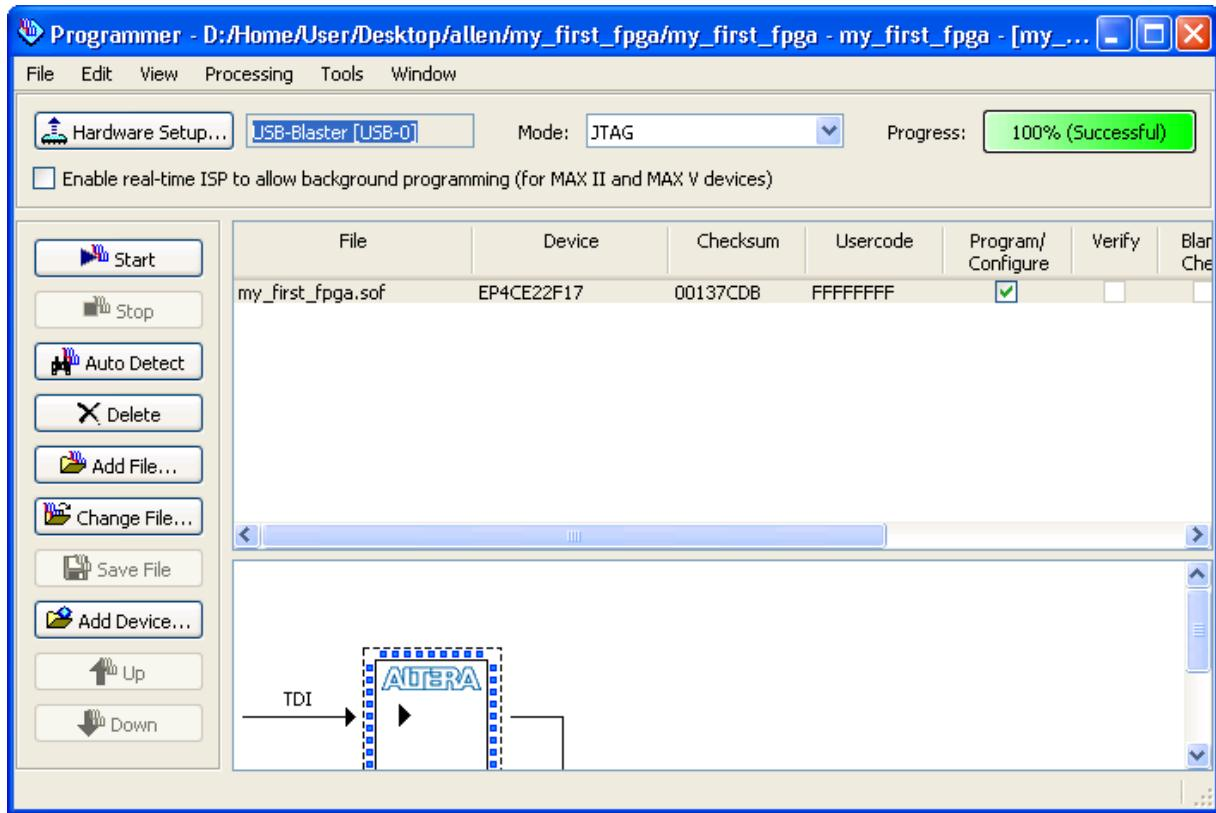

Figure 6-48 Downloading Complete
6. Select the **my_first_fpga.sof** file from the project directory (see **Figure 6-48**).